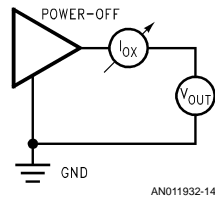

FIGURE 13.  $I_{OX}$  Test Circuit
**$I_{OX}$  — Power Off Leakage Current.** The current flowing into (out of) an output with input conditions applied that, according to the product specification, will establish a high impedance state at the output. Commonly a known state is required on the power supply pin as an input condition. For example, power supply terminal ( $V_{CC}$ ) equal to zero volts may be a required condition of an  $I_{OX}$  parameter. See Figure 13.